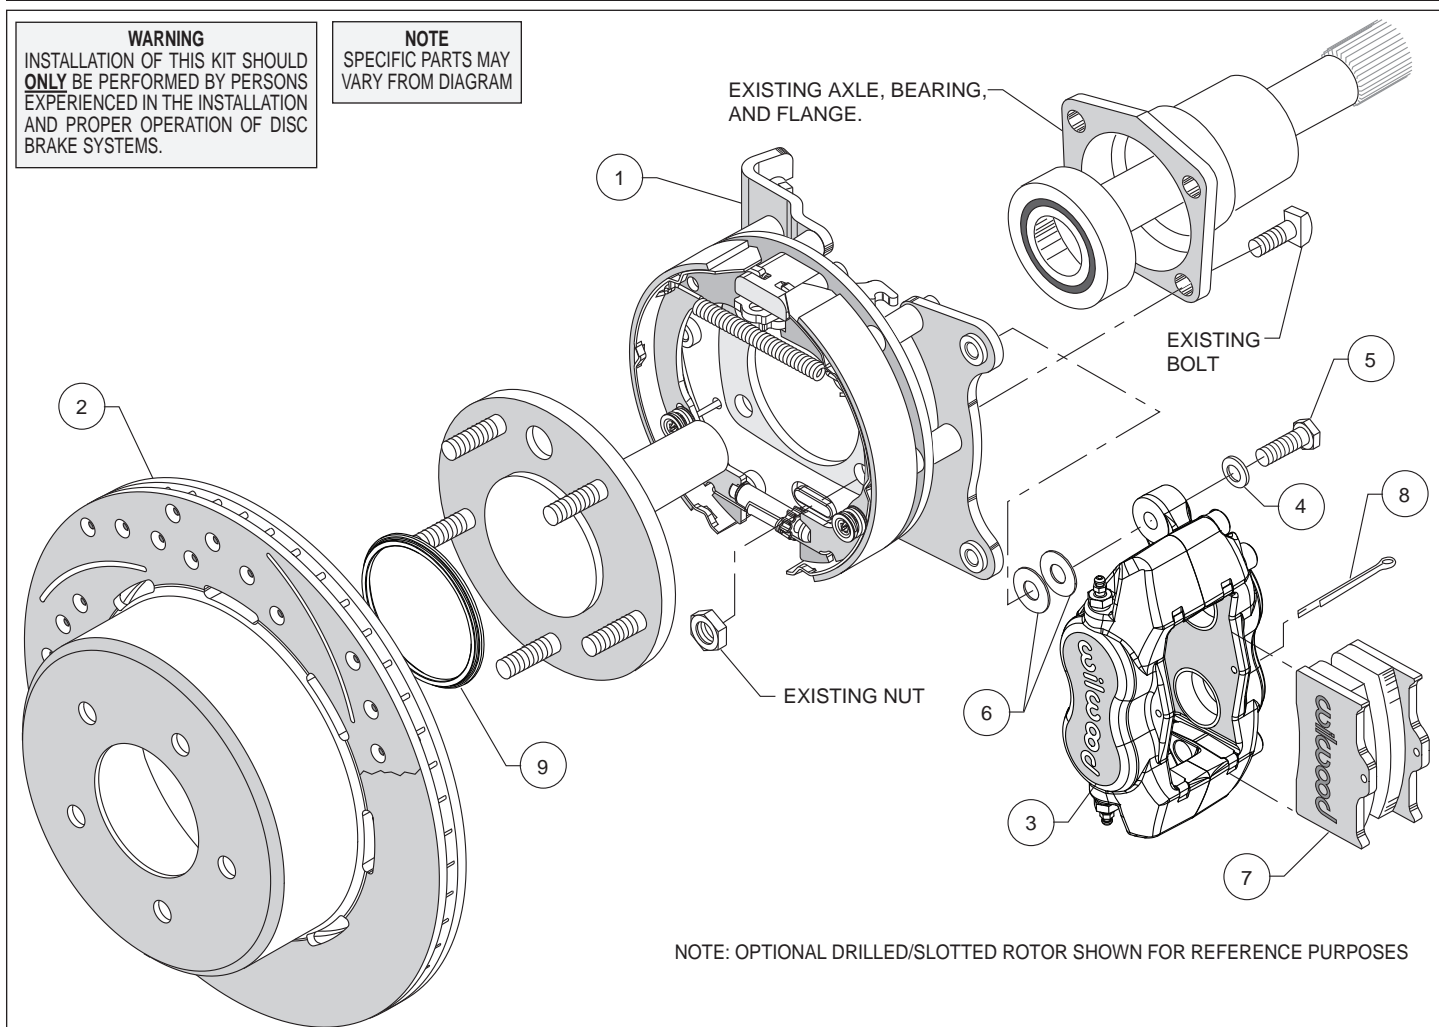
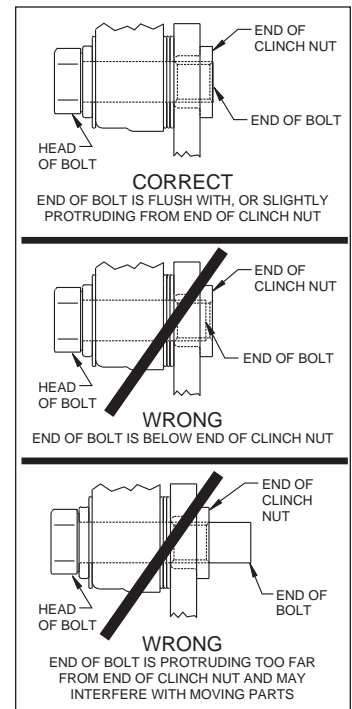

Figure 1. Typical Installation Configuration
Figure 4. Clinch Nut Engagement Diagram
**Assembly Instructions** (numbers in parenthesis refer to the parts list, and Figure 1 on the preceding pages): **CAUTION:** All mounting bolts must fully engage clinch nuts. Be sure to check that all bolts are either flush or protruding through flanged side of clinch nut after shimming, Figure 4.
- Orient the bracket assembly (1), as shown in Figure 1, and mount to the axle housing flange using the Original Equipment Manufacturer (OEM) bolts and nuts, Figure 1. Ensure that the bracket assembly backing plate fits flush against the axle housing flange. Apply red *Loctite*® 271 to the OEM bolt threads and torque to OEM specifications.
- Slide the rotor registration adapter (9) onto the axle register on the axle flange with the smaller O.D. facing toward the rotor/hat (2), Photo 1. Align the correct hole pattern in the rotor/hat with the stud pattern on the axle flange and slide into place, Figure 1 and Photo 2. **NOTE:** The rotor/hat must fit flush against the axle flange or excessive rotor run out may result. Install three lug nuts (finger tight) to keep the rotor/hat assembly in place while continuing with the installation. **NOTE:** Some OEM and after market axles come with stud sizes larger than 0.50" diameter. Verify stud size and have a qualified machine shop drill the bolt circle of the hat/rotor to the correct stud size, if necessary.
•**NOTE:** Please reference the caution statement at the beginning of the assembly instructions. Mount the caliper (3) onto the caliper mounting bracket (1) using bolts (5) and washers (4), as shown in Figure 1. Initially place two .035" thick shims (6) on each bolt between the caliper and the bracket, Photo 3. Temporarily tighten the mounting bolts and view the rotor (2) through the top opening of the caliper. The rotor should be centered in the caliper, Photo 4. If not, adjust by adding or subtracting shims between the bracket and the caliper. Always use the same amount of shims on each of the two mounting bolts. **NOTE:** The end of each bolt must be flush with or slightly protruding from the head of the clinch nut, as shown in Figure 4. If necessary place spare shims between washer (4) and caliper mounting ear to achieve the proper clinch nut engagement. Once the caliper alignment and clinch nut engagement are correct, remove the bolts one at a time, apply red *Loctite*® 271 to bolt threads, and torque to 40 ft-lb.